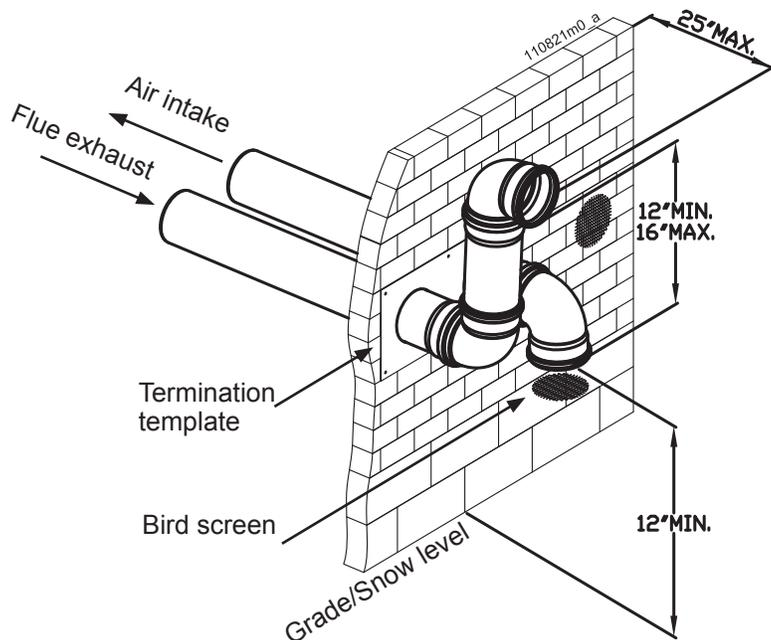

Figure 10-17 Two pipes sidewall termination of air and vent
3. The air piping must terminate in a down-turned elbow as shown in Figures 10-17 and 10-18. This arrangement avoids recirculation of flue products into the combustion air stream.
4. The vent piping must terminate in an elbow pointed outward or away from the air inlet, as shown in Figures 10-17 and 10-18.
! WARNING!!! Do not exceed the maximum lengths of the outside vent piping shown in Figures 10-17 and 10-18. Excessive length exposed to the outside could cause freezing of condensate in the vent pipe, resulting in potential boiler shutdown.
5. Maintain clearances as shown in Figures 10-17 and 10-18. Also maintain the following:
1. The air termination coupling must be oriented at least 12 inches above grade or snow line as shown in Figures 10-17 and 10-18.
2. Maintain the required dimensions of the finished termination piping as shown in Figures 10-17 and 10-18.
3. Do not extend exposed vent pipe outside of the building more than what is shown in Figures 10-17 and 10-18. Condensate could freeze and block vent pipe.